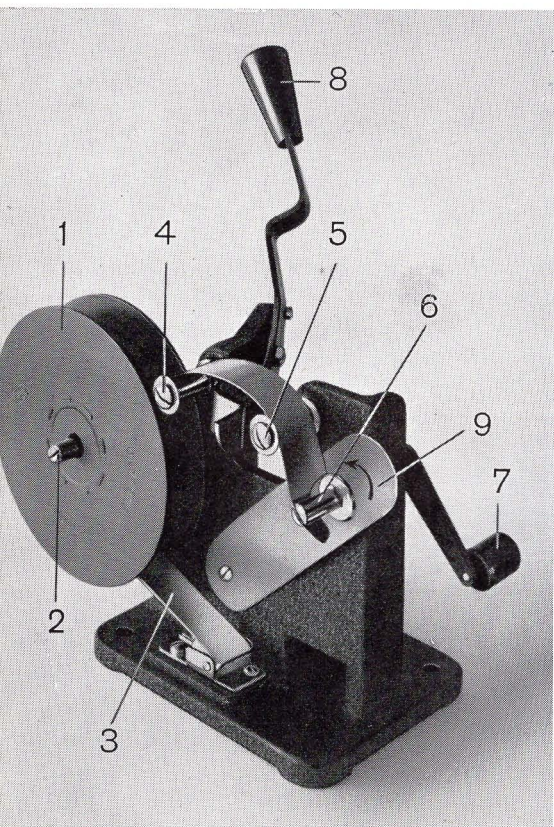
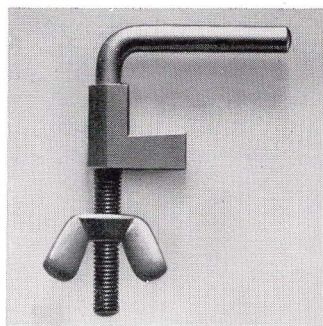

fig. 1
fig. 4
The spoolwinder can be attached to table or bench by a special clamp (fig. 4) or secured to it by means of four screws through the four screw-holes on the base. The film can be taken from regular reels up to 100 feet. If the available film does not already come on a standard metal spool it can be mounted on a special reel (1) composed of two discs which can be separated. Once the reel is disassembled, the film roll can be dipped on one disc and then assemble the other disc on it. These operations as well as all the following must be performed in total darkness. Reel (1) fig. 1, containing the film must be mounted on axle (2) after lever (3) has been lowered. The tail of the film, properly tapered, by the cutter (8) is passed through rollers (4) and (5) and finally inserted into the slit of axle (6).
**The emulsion side of the film should face upwards.** If this does not happen, reel (1) must be turned upside down and reinserted on axle (2).